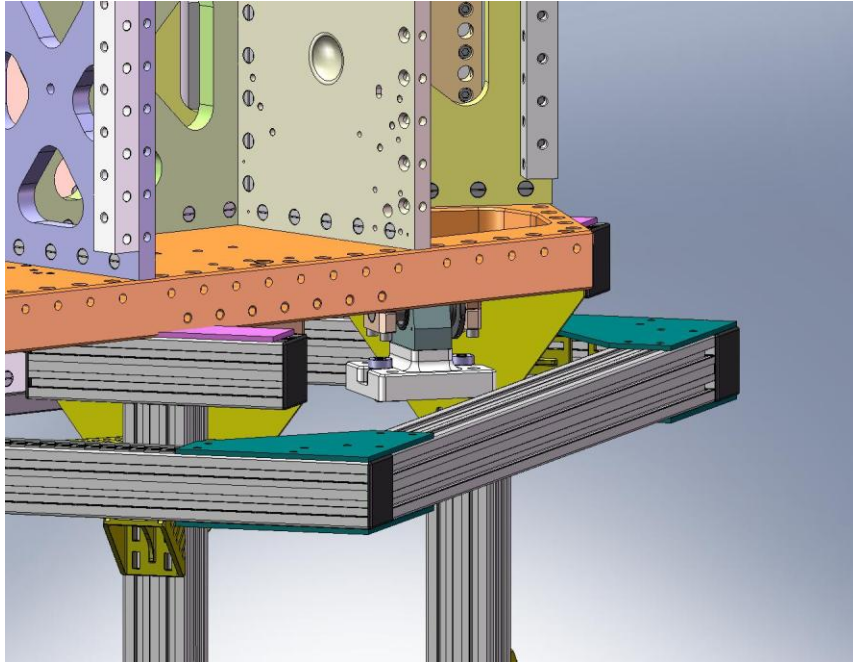

Figure 2.70. Slip (8) pins into the 1/2" holes in the Locker Bases. The shaft collar sits on the surface above the hole counterbore.
- Slip all (8) temporary pins through the oversized 1/2" holes in the **Locker Bases**, as shown in Figure 2.70.